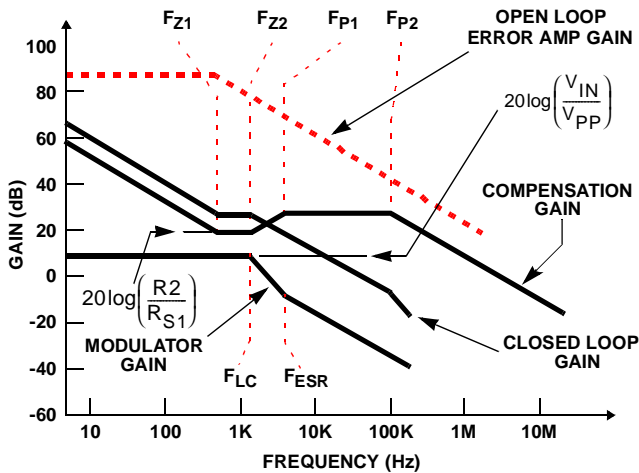

FIGURE 6. ASYMPTOTIC BODE PLOT OF CONVERTER GAIN
The compensation network consists of the error amplifier (internal to the ISL6432) and the impedance networks  $Z_{IN}$  and  $Z_{FB}$ . The goal of the compensation network is to provide a closed loop transfer function with high 0dB crossing frequency ( $f_{0dB}$ ) and adequate phase margin. Phase margin is the difference between the closed loop phase at  $f_{0dB}$  and 180 degrees. The equations below relate the compensation network's poles, zeros and gain to the components ( $R_1$ ,  $R_2$ ,  $R_3$ ,  $C_1$ ,  $C_2$ , and  $C_3$ ) in Figure 6. Use these guidelines for locating the poles and zeros of the compensation network:
Figure 6 shows an asymptotic plot of the DC-DC converter's gain vs. frequency. The actual Modulator Gain has a high gain peak dependent on the quality factor (Q) of the output filter, which is not shown in Figure 6. Using the above guidelines should yield a Compensation Gain similar to the curve plotted. The open loop error amplifier gain bounds the compensation gain. Check the compensation gain at  $F_{P2}$  with the capabilities of the error amplifier. The Closed Loop Gain is constructed on the log-log graph of Figure 10 by adding the Modulator Gain (in dB) to the Compensation Gain (in dB). This is equivalent to multiplying the modulator transfer function to the compensation transfer function and plotting the gain.